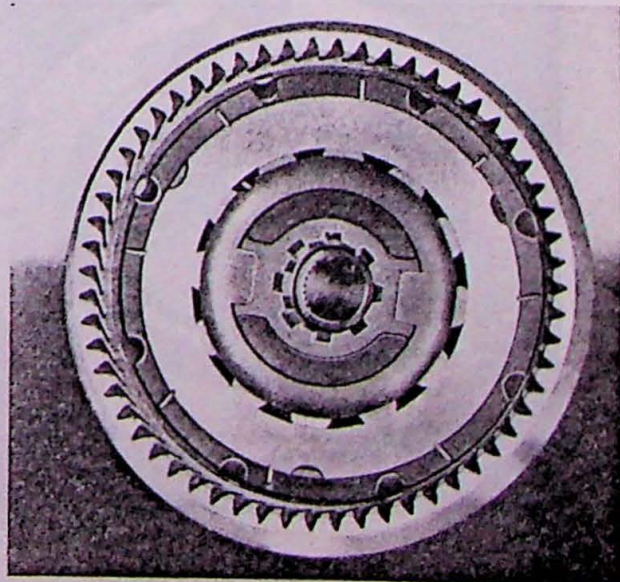

Fig. 3-52. Fitting the freewheel, II
- washer as shown in Fig. 3-52. The washer is secured with center punch or chisel marks.